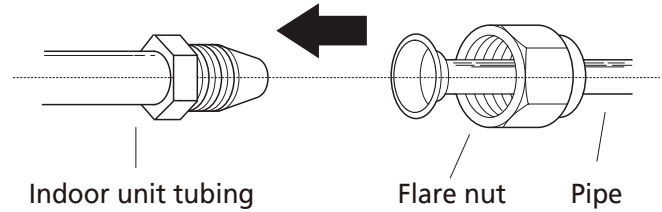

Fig. 5.7
- Align the center of the two pipes that you will connect making a 45° flare connection. See **Fig. 5.7**.